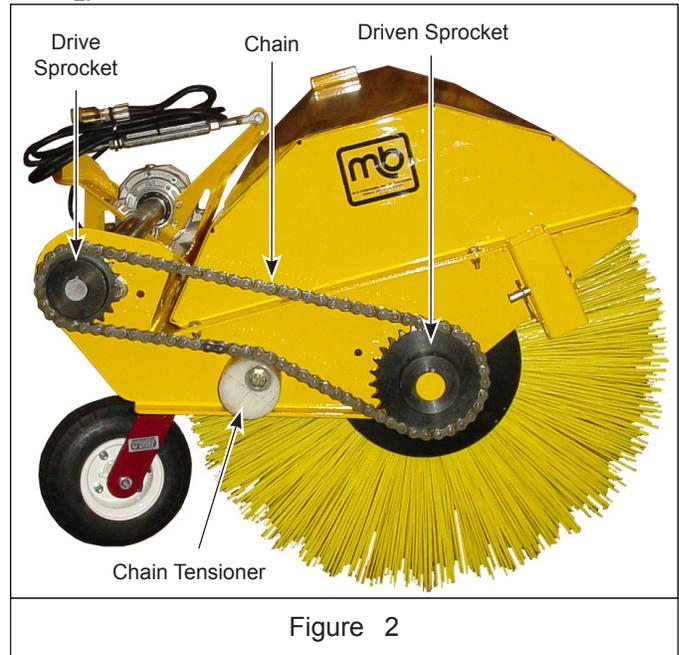

Figure 2
3. Loosen 1/2-13 x 3-3/4" socket head capscrew attaching chain tensioner and rotate tensioner until chain is slack. See Figure 2.